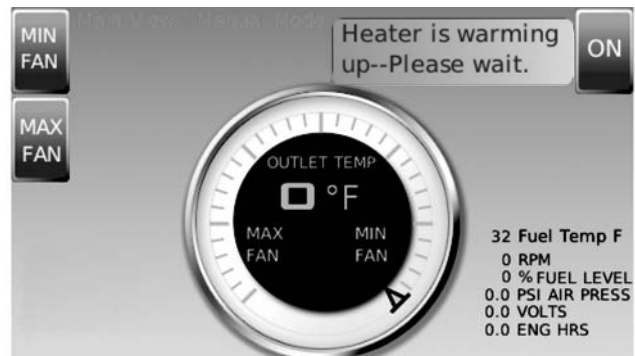

Figure 3-6. Heater Warming
6. See **Figure 3-6**. When the coolant temperature reaches 140 °F (60 °C), engine warming is complete and the heater automatically begins warming up. The screen displays “Heater is warming up--Please wait”.